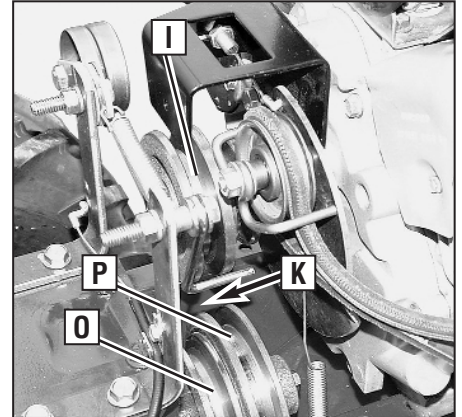
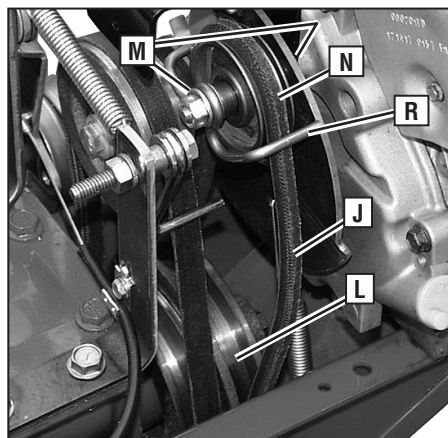
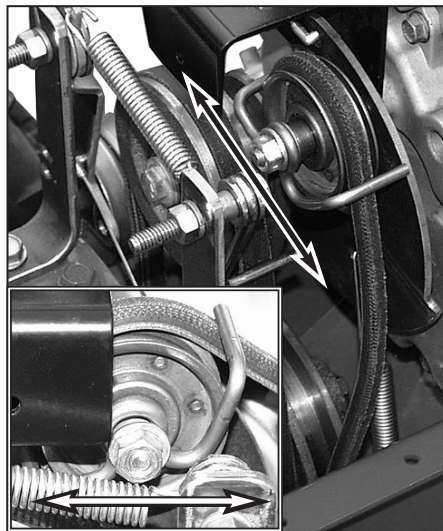

Figure 5-20: Arrow (K) shows insertion point for installing new forward clutch belt.
Figure 5-22: Right-side view.
Figure 5-23: Reverse belt guide positioning.
3. From the front of tiller, insert the forward clutch belt in between the bottom of the engine drive pulley (I) and the top of transmission pulley (K, Figure 5-20).
pull down on the belt and roll it onto the large, forward-most groove of the transmission pulley (P, Figure 5-20).
The reverse clutch belt (J, Figure 5-22) is driven by the engine drive pulley (I, Figure 5-20). When the Reverse Clutch Control knob is pulled out, it pulls the reverse idler arm and pulley (N) which tightens the belt against the engine drive pulley. This drives the transmission drive pulley (L), resulting in reverse motion.
3. Pull the reverse clutch belt downward and slip it off the transmission pulley (L, Figure 5-22).
4. Use two 1/2" wrenches to loosen and remove wire belt guide (R, Figure 5-22) from the reverse idler arm pulley. Do not remove locknut and screw.
IMPORTANT: The reverse belt has a "V" shape. When installing the belt, make sure that the widest (flat) side of the belt rides against the reverse idler pulley (N, Figure 5-22) and transmission pulley (L). If needed, the belt can be twisted "inside out" so that the "V" shaped side is on the outside and the widest side is on the inside.
3. Insert the belt down into the front of the transmission housing. Slip the top half of the belt onto the reverse idler arm pulley (N).
4. Pull the belt downward and loop the bottom half of belt around the front groove of transmission pulley (L, Figure 5-22).
6. (You will need an assistant to help with this step.) Pull the reverse idler pulley (N) up to its highest point and position the belt guide (R) horizontally level as shown in Figure 5-23. Securely tighten the screw and lock nut (M, Figure 5-22).